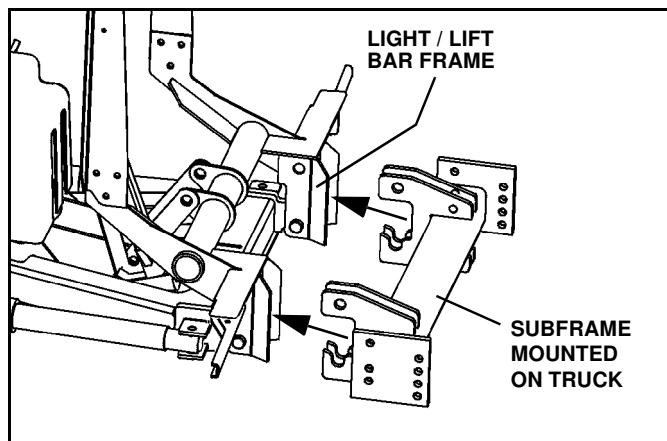

Figure 1-14
1. Drive truck into plow. Align light/lift bar frame outside of subframe lugs. Pins should fit inside slots cut into subframe lugs. (See Figure 1-14).